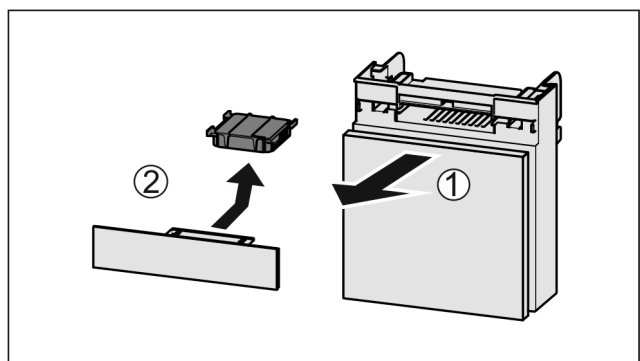

Fig. 89
- ▶ Pull out the compartment *Fig. 89 (1)*.
- ▶ Remove the carbon filter *Fig. 89 (2)*.